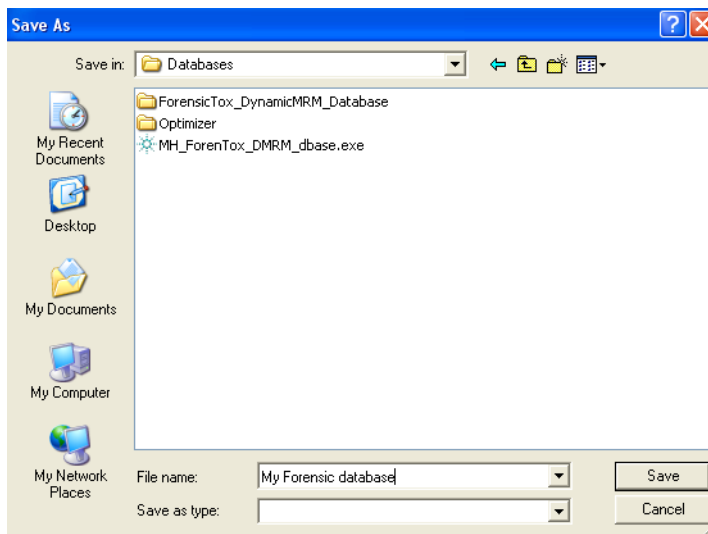

Figure 8 Save As dialog box to save a database that can be edited
- 3 Type a name for the new database in the **File name** text box, then click **Save**. See Figure 8.